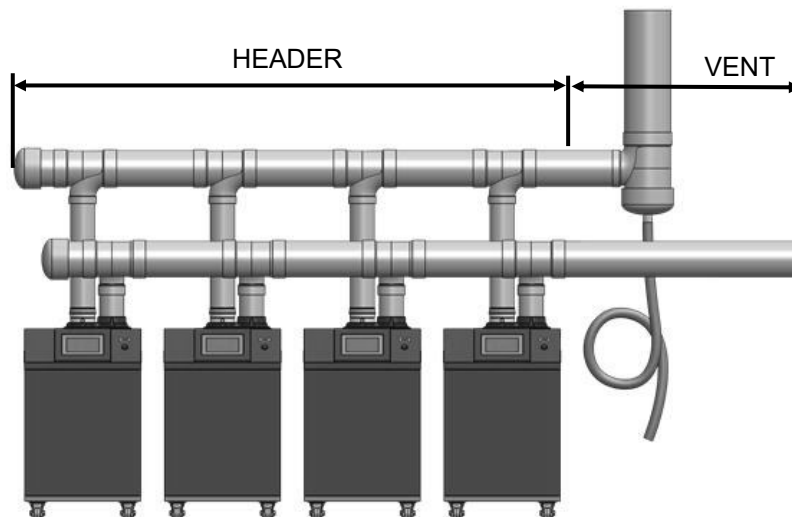

Fig 11. Header, Vent Length and Condensate Trap
- PVC/CPVC common venting should include a condensate drain and trap between the header and vent length. Condensate trap must include a loop that can hold 6 in. (15 cm) of water (Fig 11).